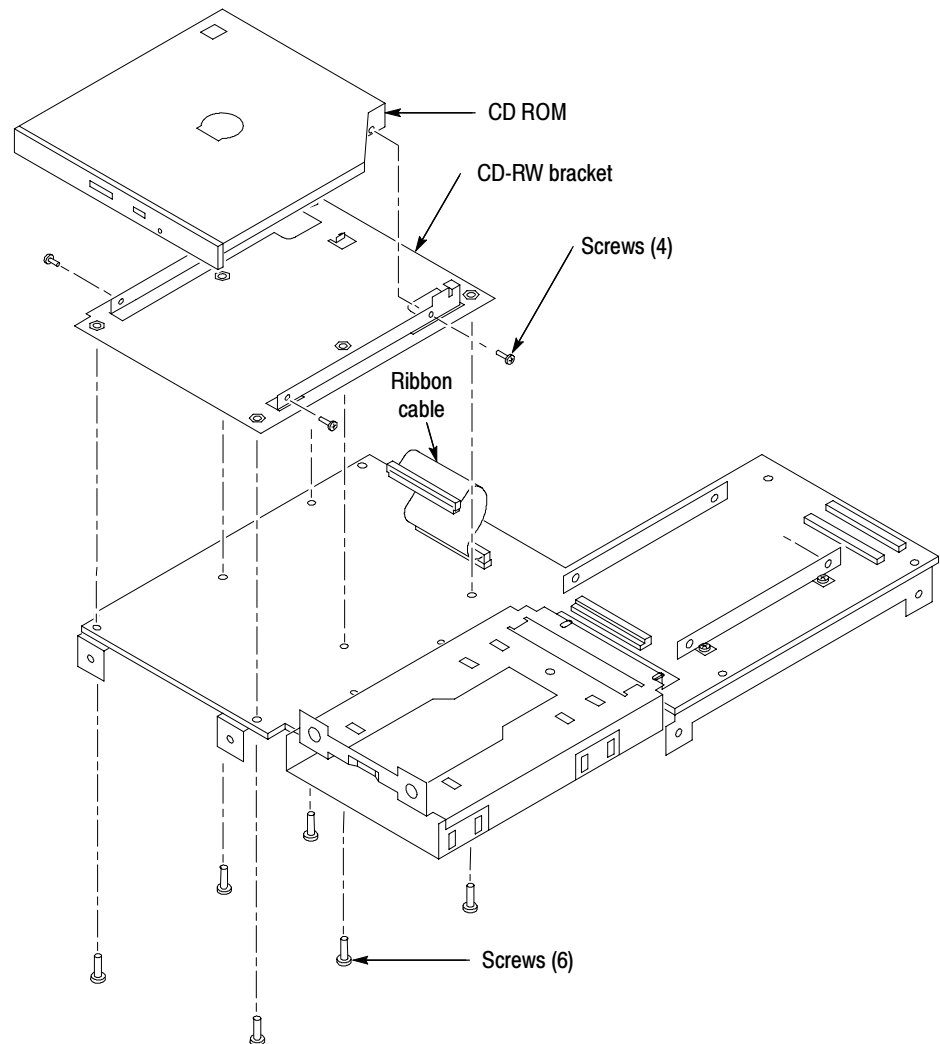

Figure 13: Removing the CD-RW drive
1. Using a #0 Phillips head screwdriver, remove the four screws on the sides of the CD-RW bracket (see Figure 13).